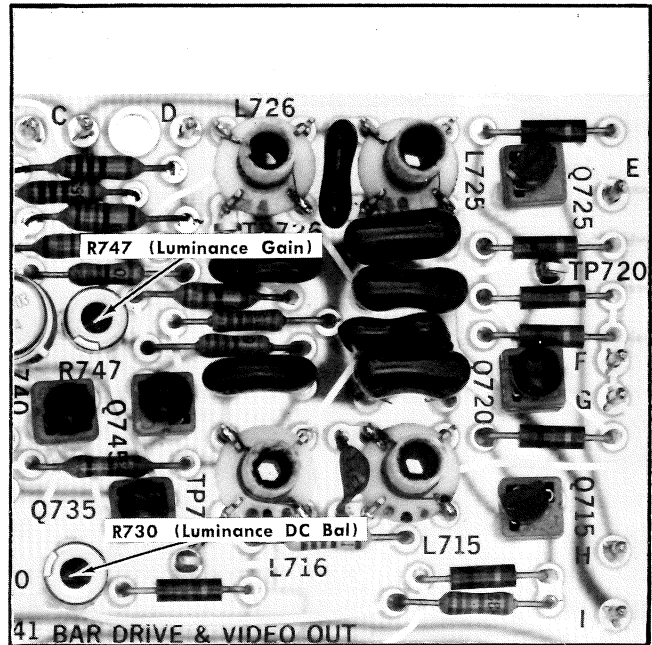

Fig. 5-9. Bar Drive and Video Output board adjustment locations.
- t. ADJUST—Luminance Gain control, R747, (see Fig. 5-9) until the center of the 87.5% APL line aligns with the blanking level.
e. ADJUST—Luminance DC Bal control, R730, (see Fig. 5-9) until the blanking level of the display exactly coincides with the reference established in part b of this step.